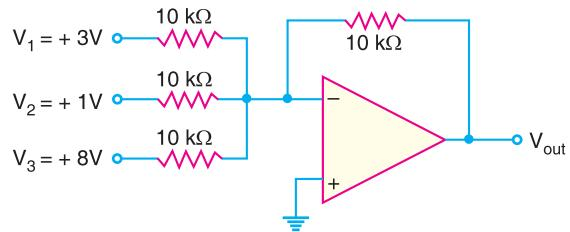

Fig. 25.72
**Example 25.44.** Determine the output voltage for the summing amplifier in Fig. 25.72.
**Solution.** Referring to Fig. 25.72, all the three input resistor values are equal and each is equal to the value of feedback resistor. Therefore, the gain of the summing amplifier is 1. As a result, the output voltage is the algebraic sum of three input voltages.